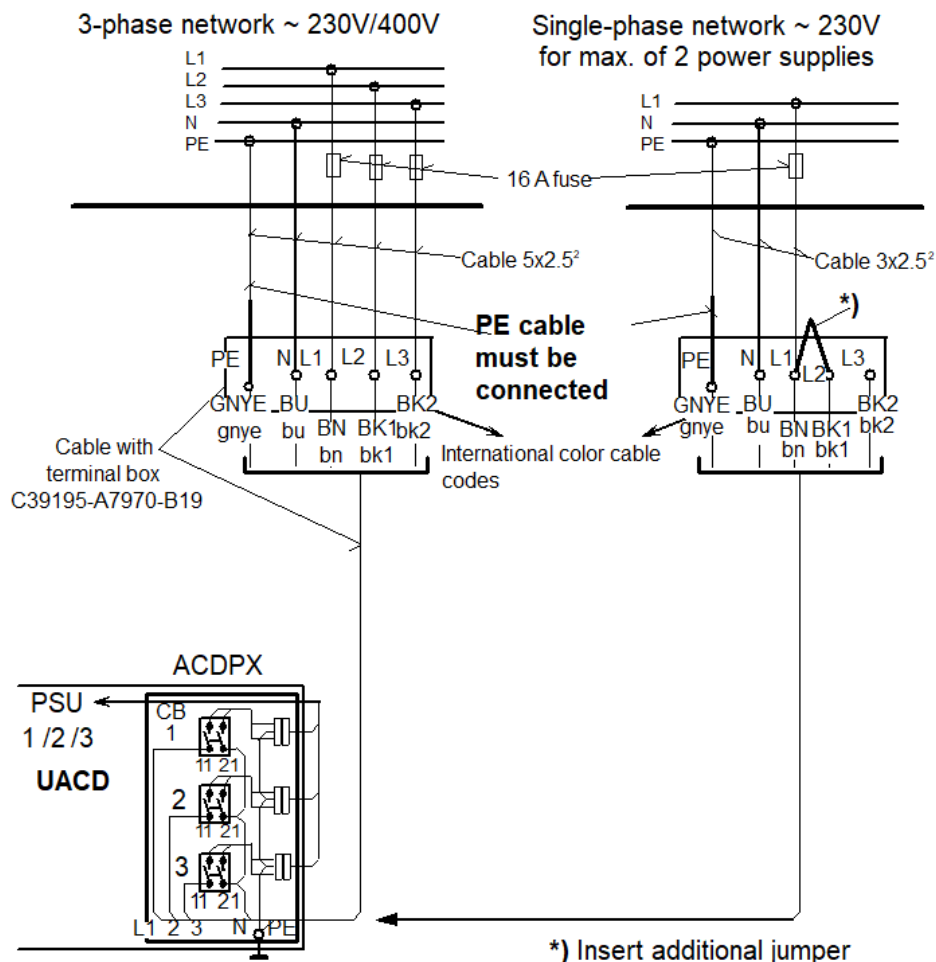

Figure 101: Three-phase/single-phase connection for two power supply units
- b) Connect the power switches 1, 2 and 3 to the ACDPX in the power supply frame of the UACD, as shown in the Figure Figure 101: Three-phase/single-phase connection for two power supply units on page 108